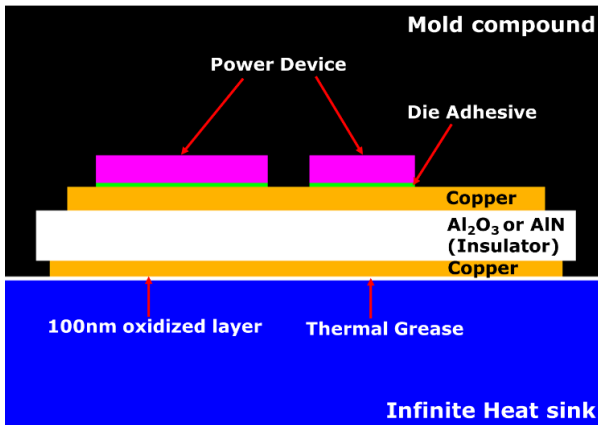

Figure 3. Cross Section View of SPM Package
Figure 3 shows a general cross sectional view of an (A)SPM package mounted on a heat sink. Thermal grease with a thermal conductivity of 1 W/mK is commonly used in order to reduce the thermal resistance of the contact. The thickness of thermal grease is assumed to be around 50 μm in (A)SPM package.